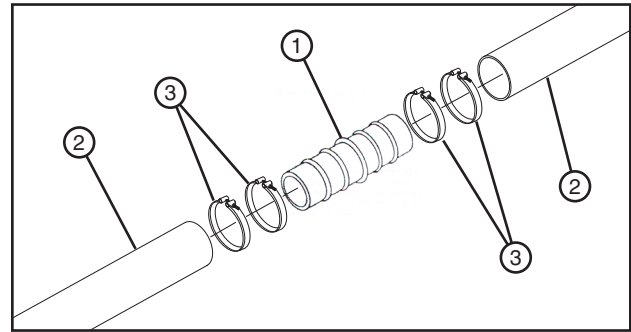

Figure 97-1 1. Rigid Mender
1. Place the rigid mender between the two sections of hose. See figure 97-1.
2. Insert the mender halfway into the first hose section. See figure 97-1.
3. Slide the other hose section into the mender. See figure 97-1.
4. Secure both hoses onto rigid mender with band clamps. See figure 97-1.